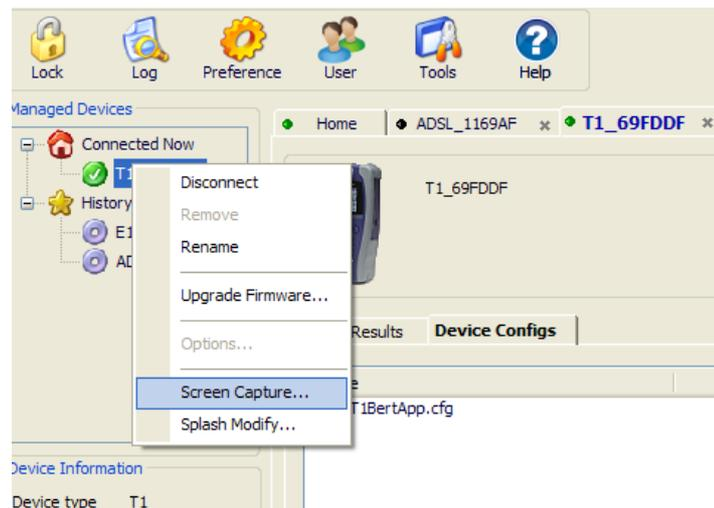

Figure 13 Screen Capture selection
- 1 In the left pane, under “Connected Now”, right click on the unit that you want to get the screen capture from, and then click **Screen Capture**, as shown in Figure 13.